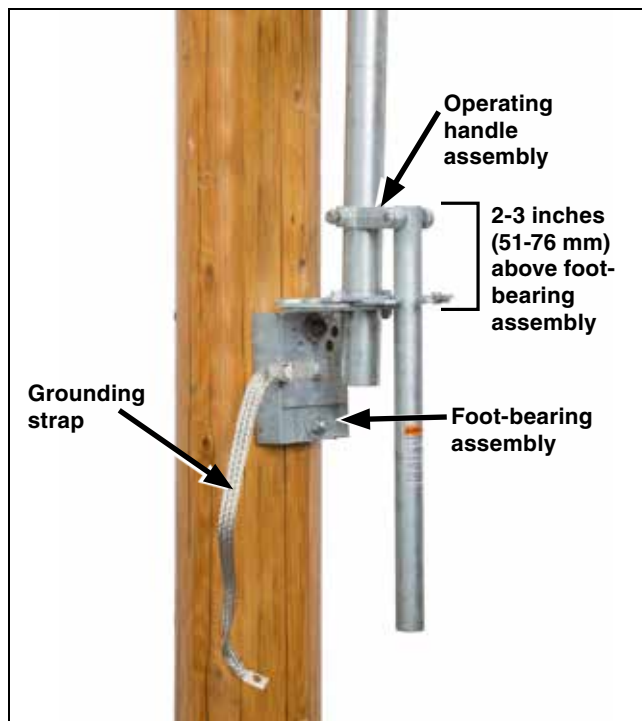

Figure 33. Attach the foot-bearing assembly.
STEP 31. Slide the foot-bearing assembly onto the lowest section of pipe at the position shown on the erection drawing. See Figure 33. Adjust the operating handle assembly until it is 2 to 3 inches (51 to 76 mm) above the foot-bearing assembly. Tighten the piercing set screws, piercing the pipe. Continue turning until a firm resistance is felt, and then use one of the mounting bolts to attach one end of the ground strap (the end with the grounding connector attached) to the foot-bearing assembly. The grounding recommendations in this document may differ from the standard operating and safety procedures of certain electric utility companies. Where a discrepancy exists, the operating procedures of the electric utility apply.